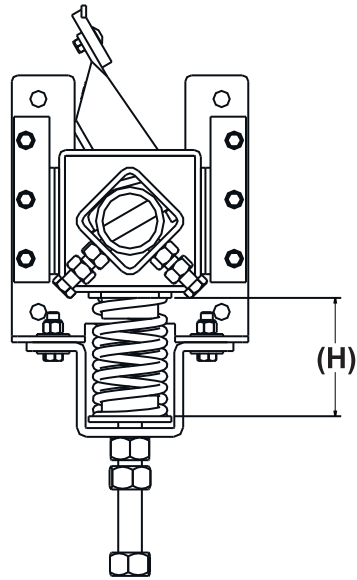

Figure 5. Spring Height (H)
- Once uniform blade/belt contact has been achieved, evenly raise the Slide Blocks causing the spring to load. Continue to tighten until sufficient upward force (blade pressure) has been achieved see Table 1. Spring Height (H) is the suggested tension starting point. See *Figure 5*.